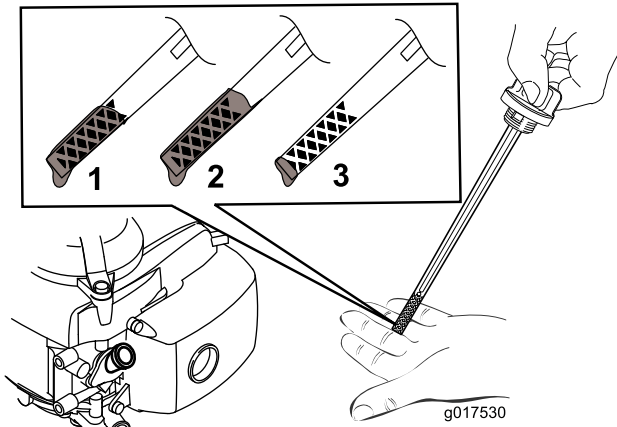

Figure 5
2. Remove the dipstick (Figure 5).
Note: Fill the engine crankcase with oil until the dipstick indicates that the engine oil level is correct as shown in Figure 5. If you overfill the engine with oil, remove the excess oil as directed in Changing the Engine Oil.